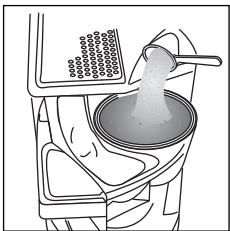

fig. 4
- Place the ground coffee in the filter, using the measuring spoon supplied, and level evenly (fig. 4). As a general rule, use a level measuring spoon of ground coffee (around 7 grams) for each cup (for example, 8 spoons to make 8 cups). **Never exceed the maximum quantity of 12 measures (models with glass jug) or 10 measures (models with thermal jug) to avoid the coffee spilling.** The quantity of ground coffee used can vary according to personal taste. Use good quality medium ground coffee packaged for filter coffee makers.